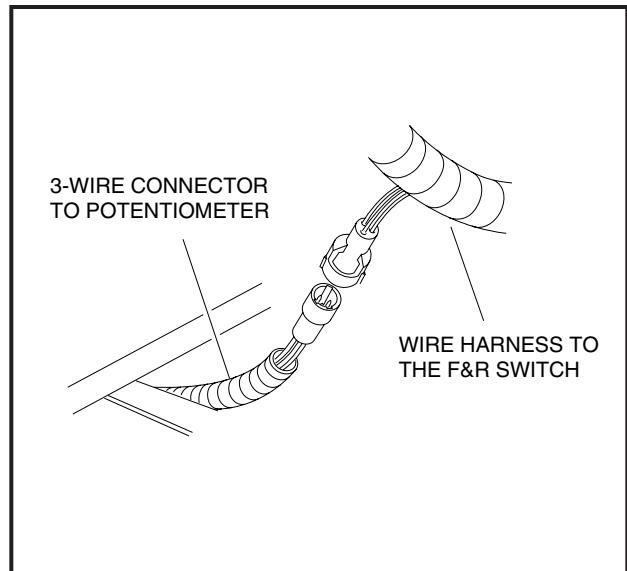

FIGURE 17-9
1. Disconnect the three-wire connector (connects the potentiometer to the Forward/Reverse wire harness) from the Forward/Reverse wire harness. The connector emerges from under the floorboard into the battery compartment below the charger receptacle on the front seat support panel (Figure 17-9).
- 2.1. Disconnect the three-wire connector (connects the potentiometer to the Forward/Reverse wire harness) from the Forward/Reverse wire harness. The connector emerges from under the floorboard into the battery compartment below the charger receptacle on the front seat support panel (Figure 17-9, Page 17-17).